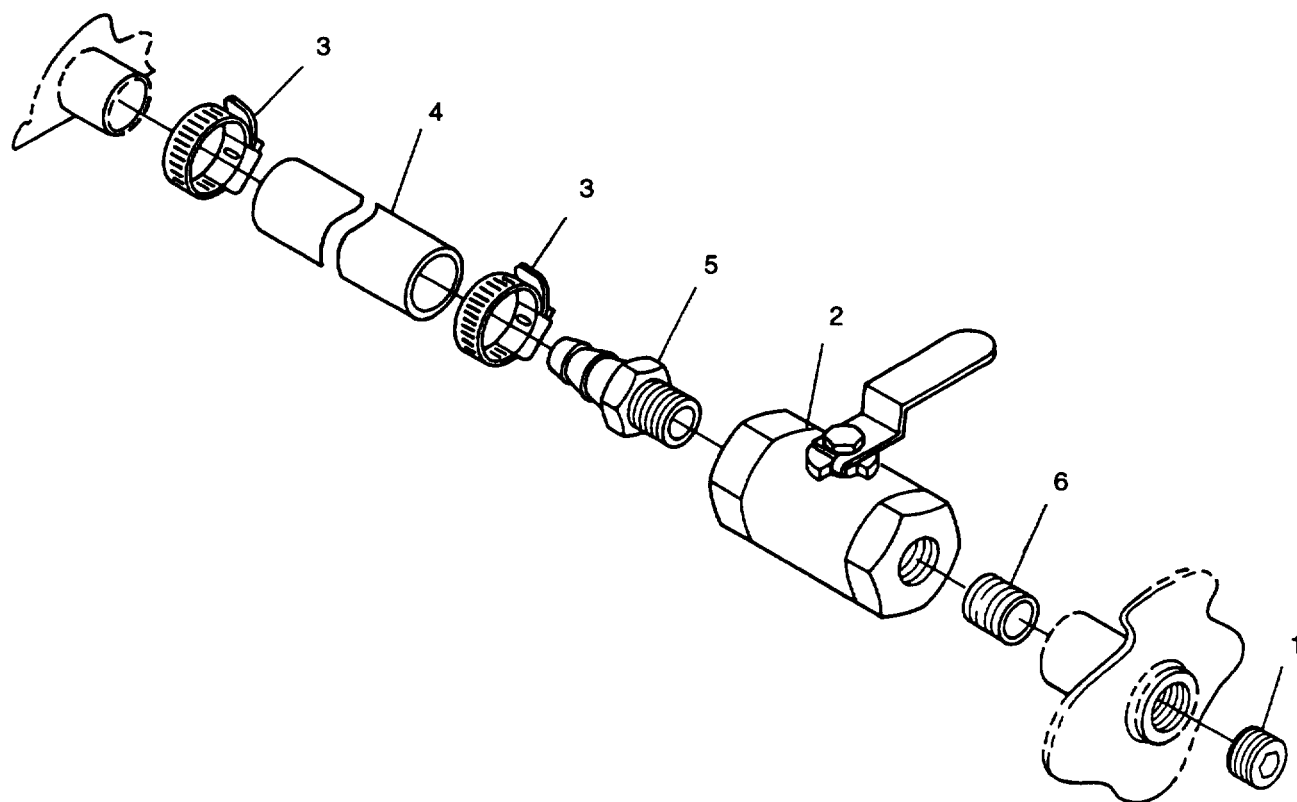

FIGURE 2-33. Oil Drain Line
- d. Remove plug (1, FIGURE 2-33), open drain valve (2) and drain engine oil into suitable container.
- e. Remove dampers (3) and drain hose (4) from oil pan fittings and adapter (5).
- f. Remove drain valve (2) from skid fitting.
- g. Remove adapter (5) and pipe fitting (6) from oil drain valve (2).
- a. Install adapter (5, FIGURE 2-33) and pipe fitting (6) in oil drain valve (2).
- b. Install drain valve (2) on skid fitting.
- c. Install drain hose (4) on oil pan fittings and adapter (5). Secure with dampers (3).
- d. Ensure drain valve (2) is closed, install plug(1) and service engine oil, paragraph 2.1.2.4.